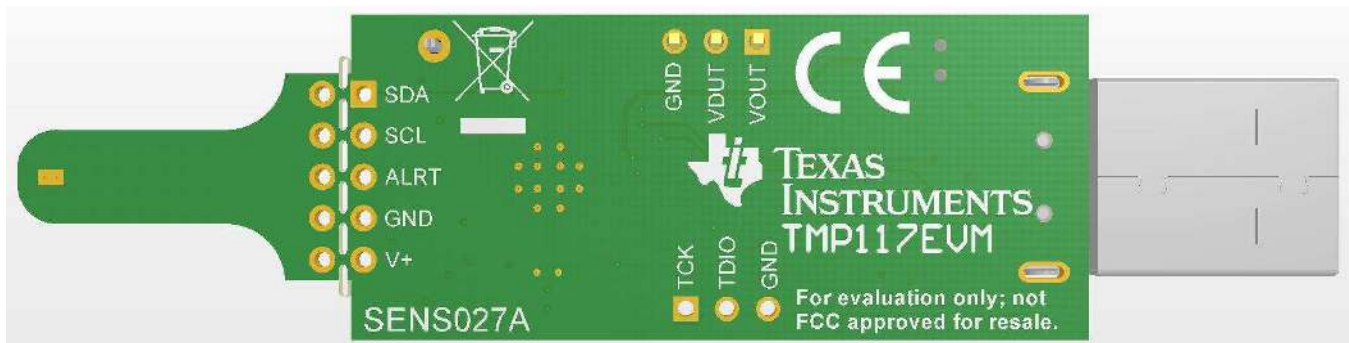

Figure 2. TMP117 Evaluation Board Bottom Side
5. Connect the header to the TMP117EVM on J4 connector by tilting header to make contact to the TMP117EVM J4 connector. Connect the wires according to this label SBW RST = TDIO, SBW TST = TCK, and GND = GND. Refer to Figure 2 for more detailed information.